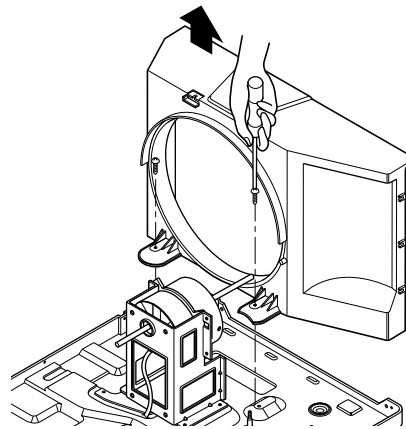

Figure 22
2. Remove the shroud. (See Figure 22)